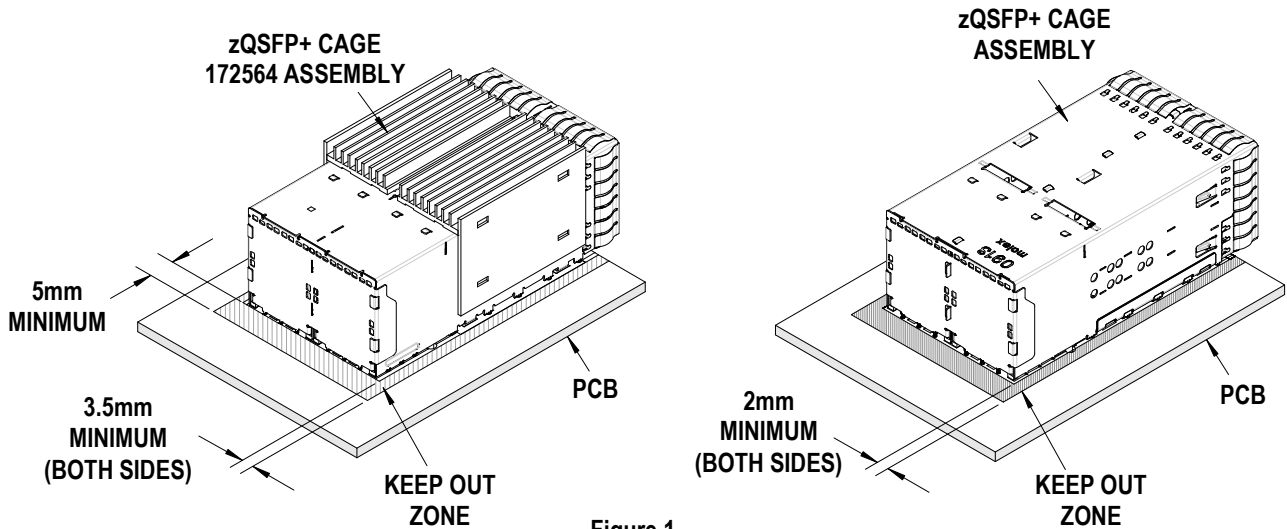

Figure 1
2. These tools require a “Keep Out Zone” around the connector free of components. The right and left sides should be 0.08” (2mm). See Figure 1.